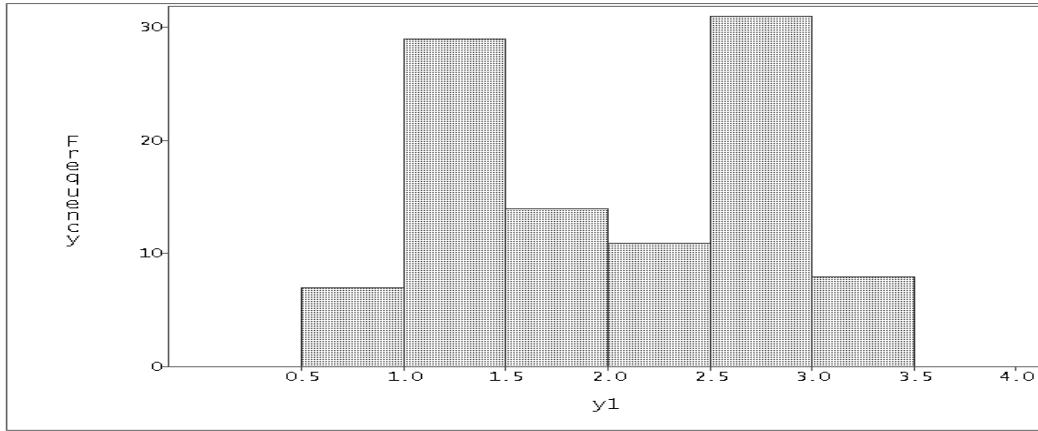
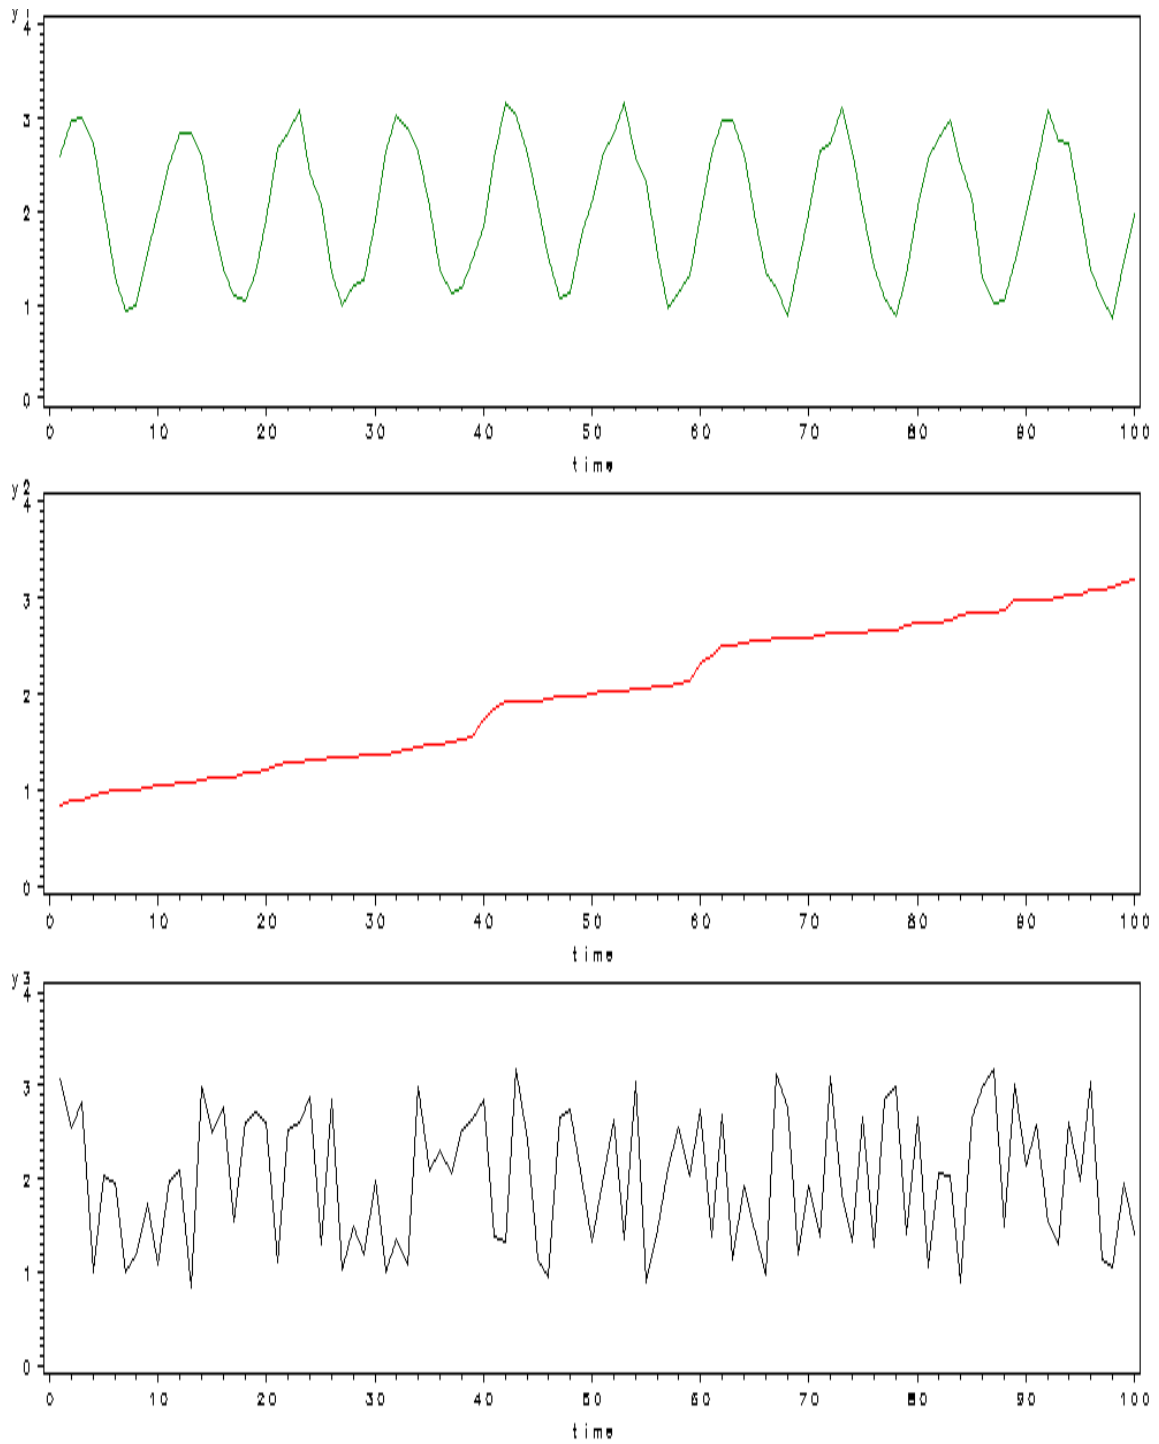

Figure 3: *Histogram of some simulated data.*
Figure 4: *Three possible time series plots for the simulated data.*
- o To assess stationarity data must be plotted versus time. Figure 3 shows a histogram of some simulated data:
The histogram in Figure 3 will always look the same regardless of the order in which the data were taken. Figure 4 shows three possible plots of these same data, obtained by rearranging the order in which the data are plotted. These three plots tell very different stories about the process that produced the data. This example shows that to properly analyze data taken over time, it is necessary to plot the data versus time.